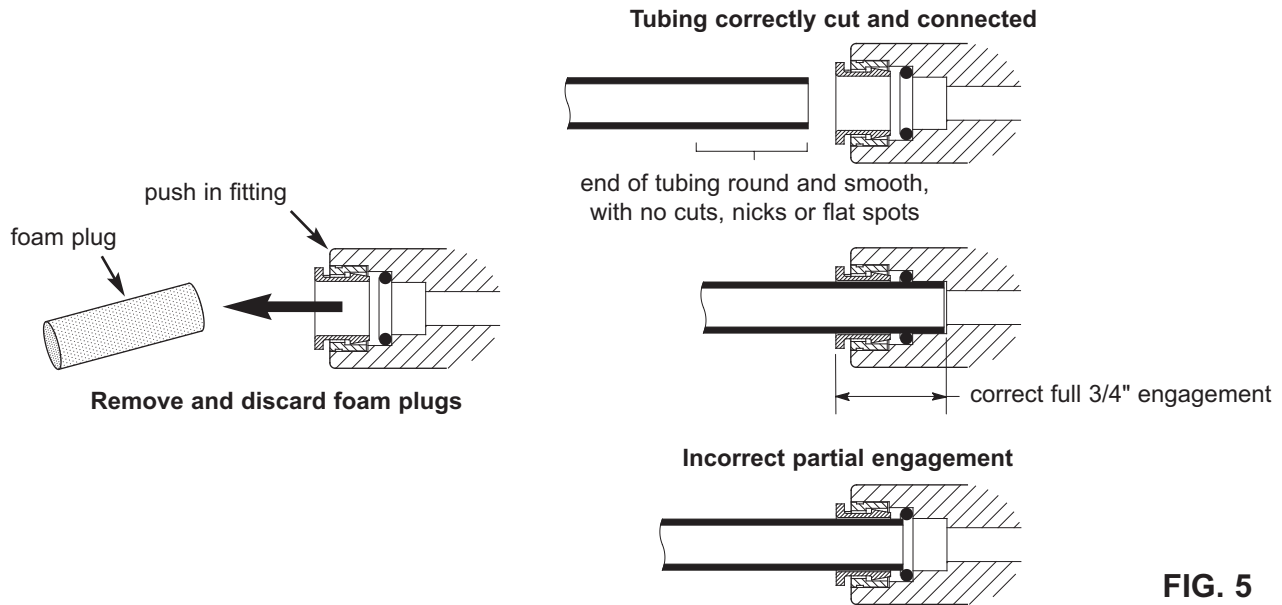

FIG. 5
**NOTE: Remove protective foam plugs before connecting tubes (See Fig. 5). Discard foam plugs.**